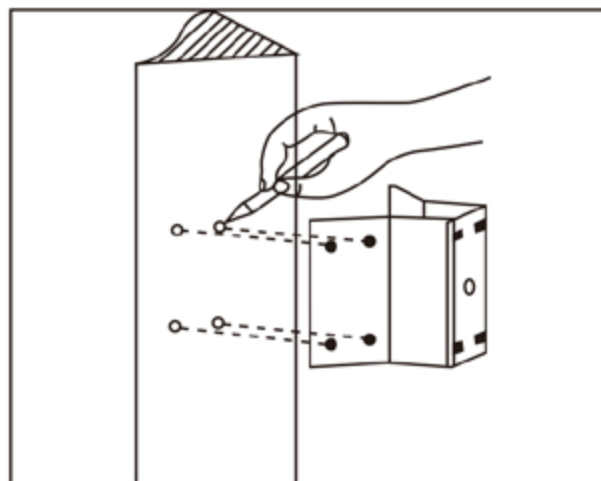

Fig. 5
a. As shown in Fig5, with the installation holes in the corner mounted attachment as pattern, draw punched locations on the wall with an angle of 90° and punch to install expansion bolt.